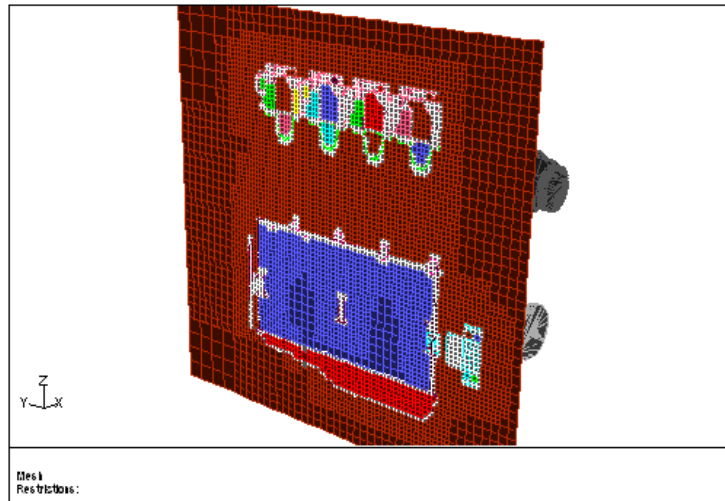

Figure 7.12: Pan Plane with the Overlaid Geometry
ii. Move the slider bar to position the pan plane as shown in Figure 7.12 (Value  $\approx 28$ ).
*The presence of the main region color on the inside (Figure 7.12) is an indication of a possible leak. In this case, the remaining hole in the f\_v8-airintake zone has caused this leak. You can switch between Positive and Negative to flip the geometry, if required.*